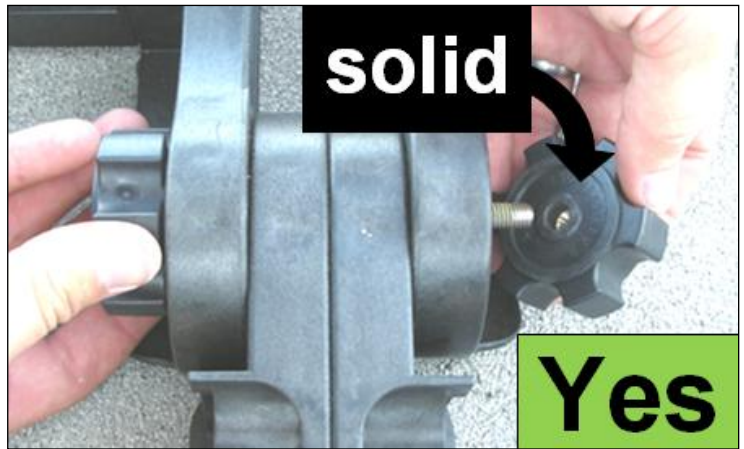

Fig. 9
3. After a given module is in alignment with all of the other modules that are to be positioned immediately around it, attach a connector loosely at each of the junctions using the techniques described in the table in Section 4.4 (Fig. 8 and Fig. 9). Hand-tighten the connectors. (You will tighten the connectors with a torque wrench later.)
**Important!** When attaching the female half of the connector, ensure that the *solid* side faces inward, toward the connector bolt (Fig. 8 and Fig. 9). If you incorrectly position the *hollow* side facing the bolt (Fig. 10), the embedded nut will pull out when you tighten the knob.